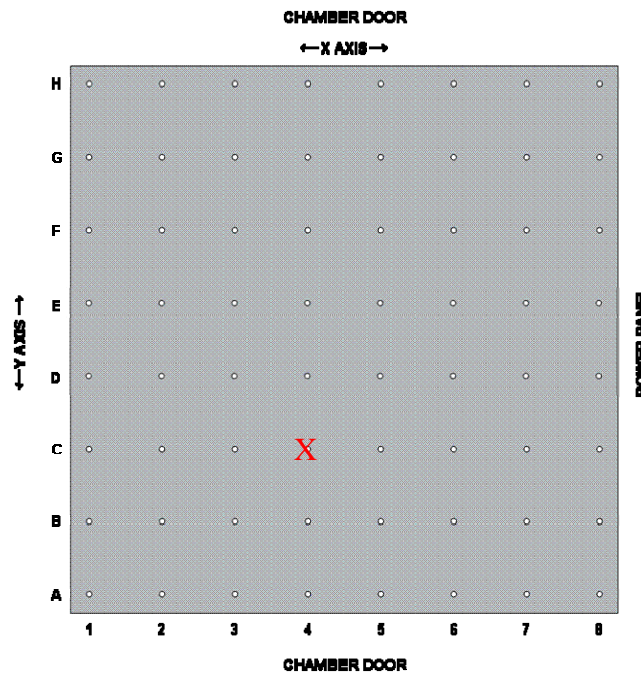

Figure 1 – 30inch x 30inch Table Layout- place thermocouple at position C4
- Thermocouple Placement (Figure 1)
- 30inch x 30inch table: At table bolt hole position C4 (**Figure 1**)